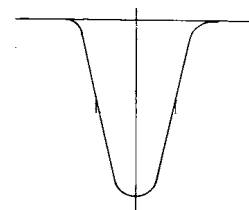

Fig. 8.
(2)	AM signal generator (300kHz, 400Hz, 30% modulated weak input) V.T.V.M.
(3)						Repeat (1) & (2)
- (8) Connect the ground side of the sweep generator output dummy to the local oscillator shielded plate. Adjust the variable capacitor so that it has minimum capacitance.
- (9) Adjusting T151 core, make a waveform as in Fig. 8. Because of the ceramic filters used, the markers may be out of position. If this happens, neglect the markers.
- (10) Set the input level to 74dB in coarse adjustment. Reduce the input level to minimum (50dB) as adjustment proceeds.